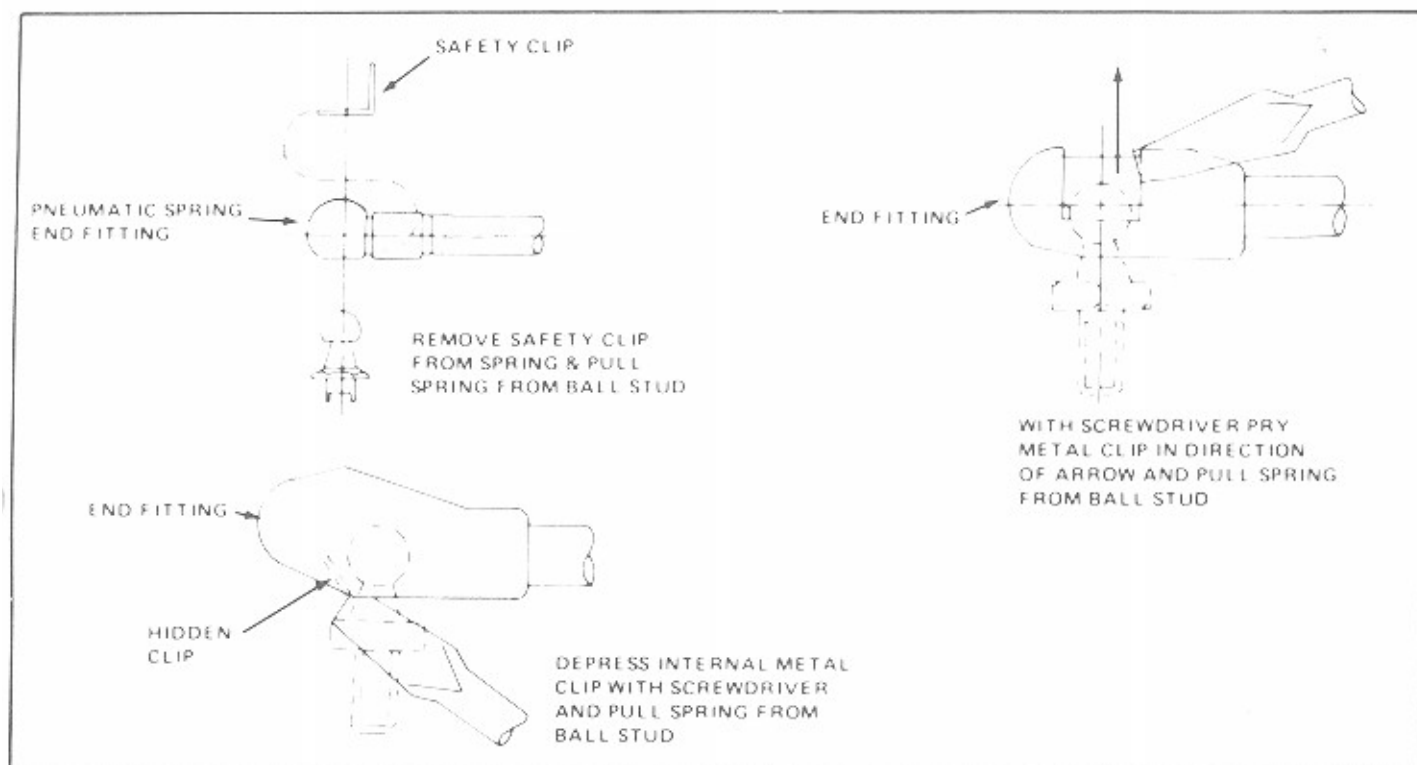

Figure 3-9. Door Spring Fittings
2. While another person keeps the door open, find the appropriate style spring end fitting in *figure 3-9* and follow the example given.